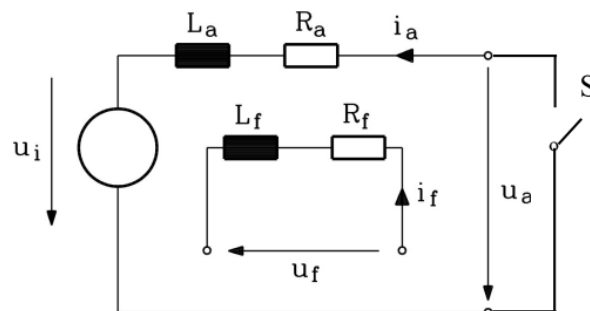
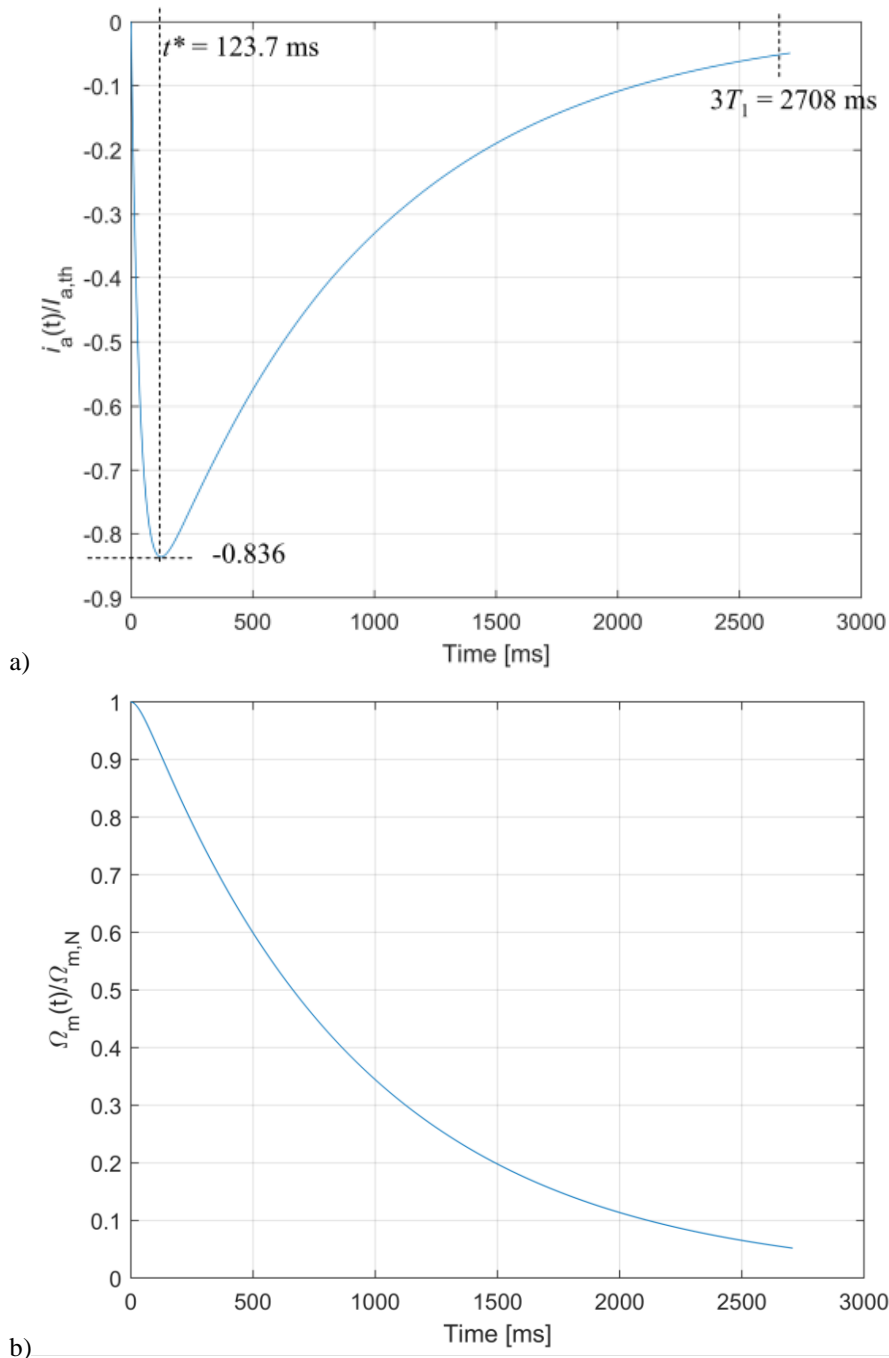

Fig. 5.6-1: Electrical equivalent circuit of a separately excited DC generator, whose armature winding is short-circuited at the brushes via the switch S.
Fig. 5.6-2: a) Armature current during braking. b) Speed of generator-turbine set during braking.
- 3) For a fast speed down of the turbine-generator set the generator “short-circuit brake” is used. For that first the turbine water main valve is closed to put the driving torque $M_s = 0$ and the generator is switched off the grid: $I_a = 0$. Due to the small friction torque the speed n is (nearly) not changed $n = n_N$. Then at $t = 0$ the DC generator armature winding is short-circuited via a short-circuit switch S (Fig. 5.6-1), while the separately excited main flux Φ is still active. It induces the armature winding, so that the short-circuit armature current i_a flows. It generates with Φ the electrical braking torque $M_e < 0$, which decelerates the turbine-generator unit fast to zero speed. Give the dynamic equations for $i_a(t)$, $\Omega_m(t)$ and the initial conditions $i_a(0)$, $\Omega_m(0)$! Tends the generator-turbine set to oscillate under dynamical load changes?
Current peak at t^* with $i_{a,max} = -0.836 \cdot I_{a,th} = -3273.5 \text{ A} = -10.23 \cdot I_{aN}$. The current (Fig. 5.6-2a) is negative with respect to the positive direction in Fig. 5.6-1, as it is a generating current. The kinetic energy is transformed into heat in R_a . Plot in Fig. 5.6-2 for three long time constants $3T_1 = 3 \cdot 902.63 \text{ ms} = 2708 \text{ ms}$.
A separately excited DC generator G is driven by an *Ossberger* water turbine T in a small hydro power plant at n_N and supplies a local DC grid in a rural district (Fig. 5.6-1).
For a fast speed down of the turbine-generator set the generator “short-circuit brake” is used. For that first the turbine water main valve is closed to put the driving torque $M_s = 0$, and the generator is switched off the grid: $I_a = 0$, $M_e = 0$. Due to the small friction torque the speed n is (nearly) not changed $n = n_N$. Then at $t = 0$ the DC generator armature winding is short-circuited via a short-circuit switch S (Fig. 5.6-1), while the separately excited main flux Φ is still active. It induces the armature winding, so that the short-circuit armature current i_a flows. It generates with Φ the electrical braking torque $M_e < 0$, which decelerates the turbine-generator unit fast to zero speed.